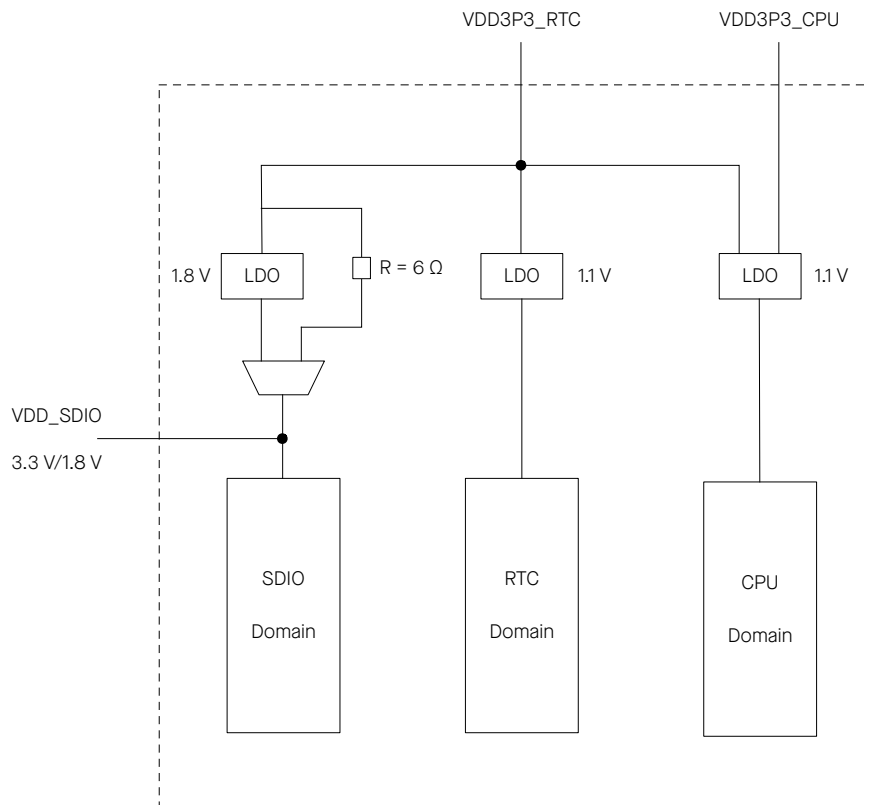

Figure 2-3. ESP32 Power Scheme
The power scheme is shown in Figure 2-3 ESP32 Power Scheme.
- As the in-package flash (ESP32-U4WDH) and the in-package PSRAM (ESP32-D0WDR2-V3) operate at 3.3 V, VDD\_SDIO must be powered by VDD3P3\_RTC via a 6  $\Omega$  resistor. See Figure 2-3 ESP32 Power Scheme.